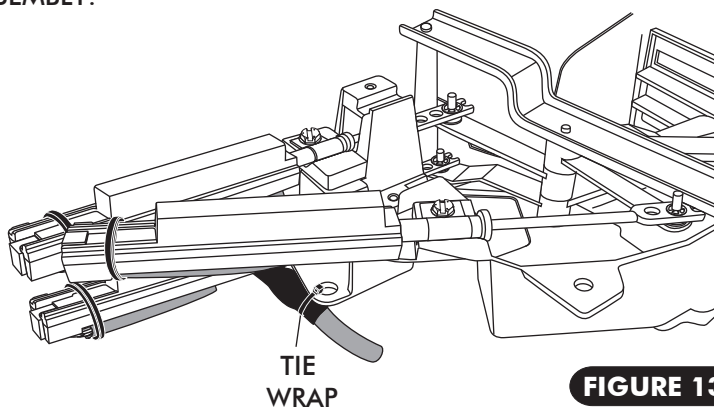

FIGURE 13
- USING THE SUPPLIED TIE WRAPS, TIE THE WIRES TO THE CONTROL PANEL AS SHOWN IN FIGURE 13 BELOW. CONFIRM THAT WIRES ARE SECURED AND DO NOT INTERFERE WITH LEVER OPERATION OR CABLE CONVERTER ASSEMBLY.